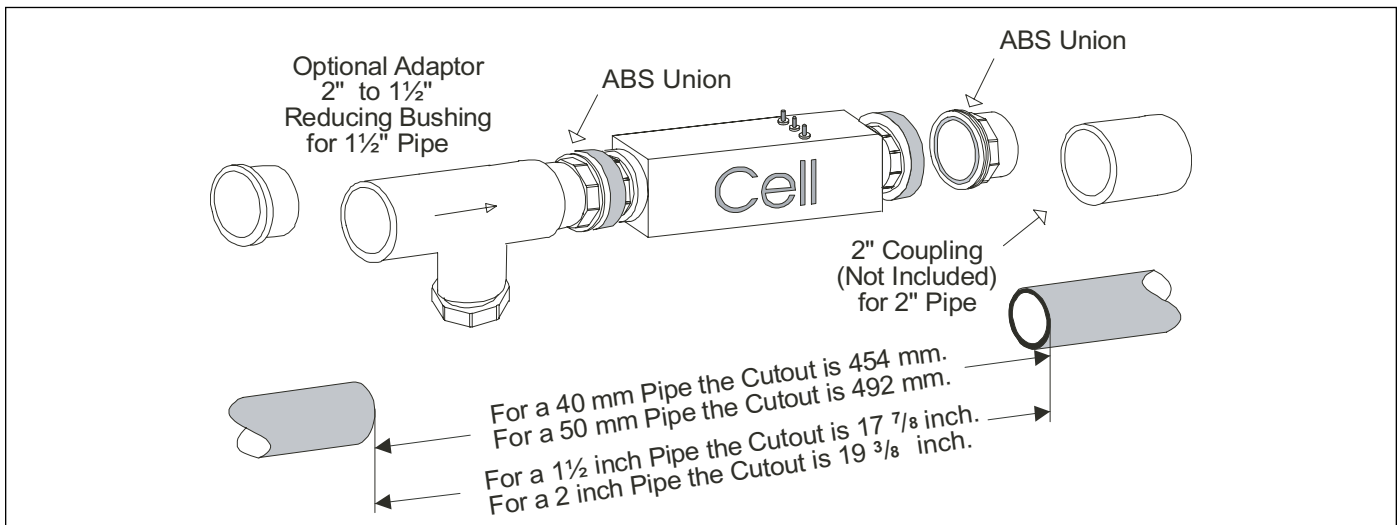

Figure 13. Pipe Cutout
5. If using 1½ inch (40 mm) pipe, cut out a 17 7/8 inch (454 mm) section of pipe to insert the Cell - Flow/Temp/Salinity Sensor Assembly (see Figure 13).
If using 50 mm (2 inch) pipe, cut out a 19 3/8 inch (492 mm) section of pipe to insert the Cell - Flow/Temp/Salinity Sensor Assembly (see Figure 13).